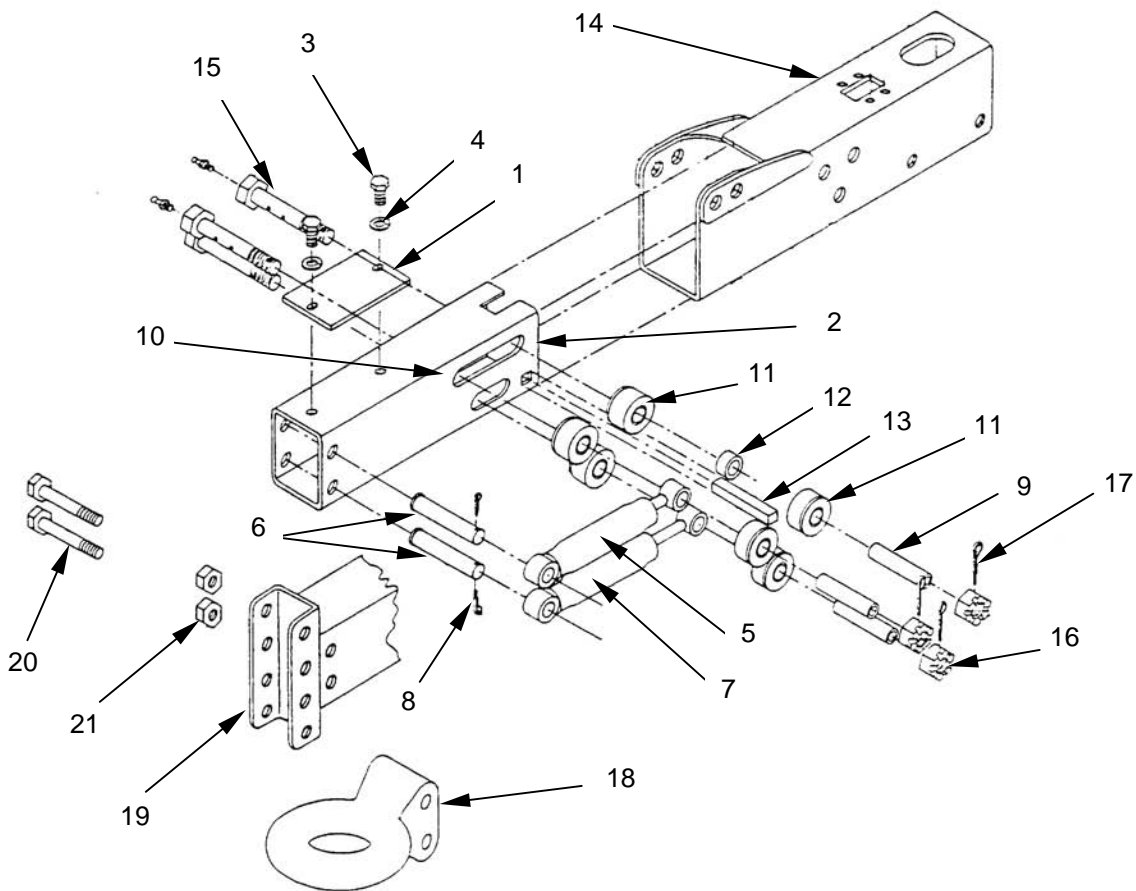

Figure 18. Inner Roller and Dampers
- a. Place the centering plate (**figure 18, item 1**) on the inner slide (**figure 18, item 2**).
- b. Secure centering plate in place with bolts (**figure 18, item 3**) and lockwashers (**figure 18, item 4**).
- c. Reach through the rear of the inner slide with the top damper (**figure 18, item 5**).
- d. Using a damper pin (**figure 18, item 6**), secure the small end into the top hole.
- e. Reach through the rear of the inner slide with the lower damper (**figure 18, item 7**).
- f. Using a damper pin (**figure 18, item 6**), secure the small end into the bottom hole.
- g. Insert cotter pins (**figure 18, item 8**) into top and bottom damper pins.
- h. Insert a spacer tube (**figure 18, item 9**) into the top slot (**figure 18, item 10**) of the inner slide.
- i. Reach in from the rear of the inner slide with one of the rear rollers (**figure 18, item 11**) (chamfered edge out) and thread it onto the spacer tube (**figure 18, item 9**).
- j. Next on the spacer tube place the end of the top damper (**figure 18, item 5**), and then the other rear roller (chamfered edge out).
- k. Reach in from the rear of the inner slide with one of the rear rollers (**figure 18 item 11**) (chamfered edge out) and thread it onto the spacer tube (**figure 18, item 9**).
- l. Next on the spacer tube place the end of the bottom damper (**figure 18, item 7**), and finally the other rear roller (chamfered edge out).
- m. Insert the third and final spacer tube (**figure 18, item 9**) onto the top slot (**figure 18, item 10**) of the inner slide.
- n. Reach in from the rear of the inner slide with one of the rear rollers (**figure 18, item 11**) (chamfered edge out) and thread it onto the spacer tube.
- o. Next on the spacer tube place a spacer (**figure 18, item 12**) then the final roller (chamfered edge out).
- p. Insert push rod block (**figure 18, item 13**) into inner slide (**figure 18, item 2**).
- q. Carefully insert the inner slide (**figure 18, item 2**) into the outer case (**figure 18, item 14**) so as not to dislodge the spacer tube assemblies.
- r. Insert a rear roller bolt (**figure 18, item 15**) into the front top spacer tube and loosely secure the bolt with a castle nut (**figure 18, item 16**).
- s. Insert a rear roller bolt into the bottom spacer tube and loosely secure the bolt with a castle nut (**figure 18, item 16**).
- u. Tighten the castle nuts on the three bolts and secure with cotter pins (**figure 18, item 17**).
- v. Install lunette eye (**figure 18, item 18**) in the leveler channel (**figure 18, item 19**) in the same position on the leveler channel using retained hardware.
- w. Fasten lunette eye in place with mounting bolts (**figure 18, item 20**) and nuts (**figure 18, item 21**).